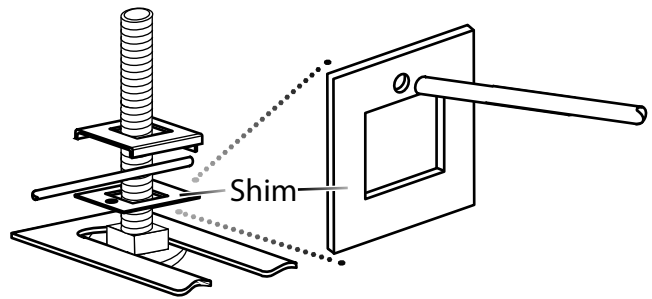

Figure 11
Step 4: Determine if a shim is required to secure the central member during strain-relief (Figure 11).